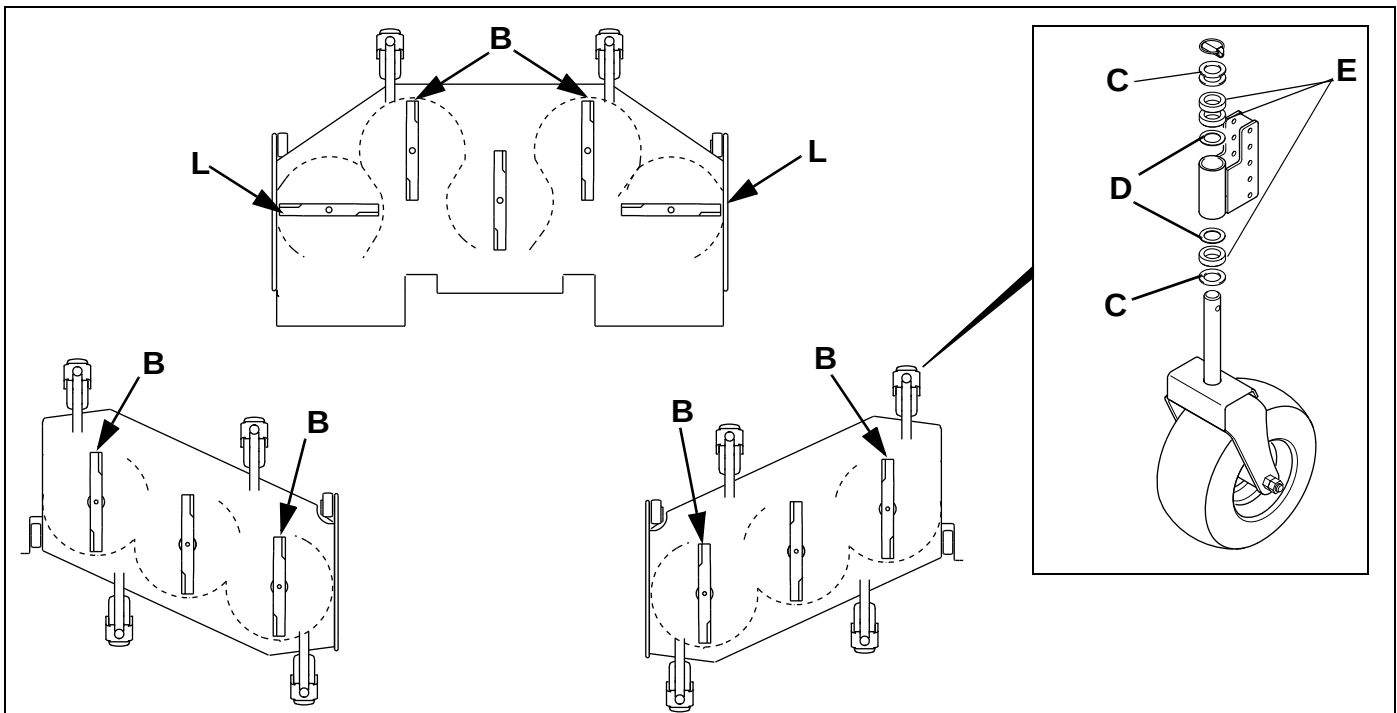

Figure 3A
2. Rotate front deck blades to positions shown in **Figure 3A**.